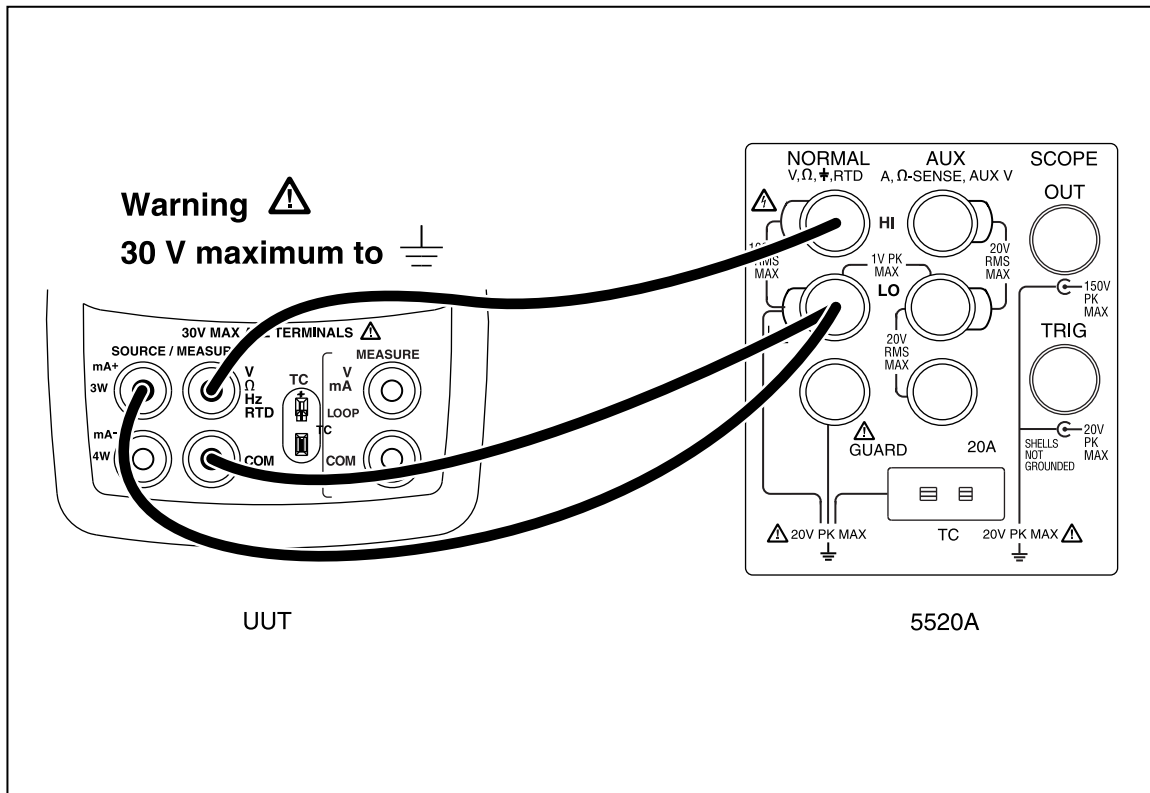

Figure 9. Lower Display 3-Wire Resistance Test Connections
2. Set the 5520A to 2-wire output with 2-wire compensation off; then make the connections shown in Figure 9.